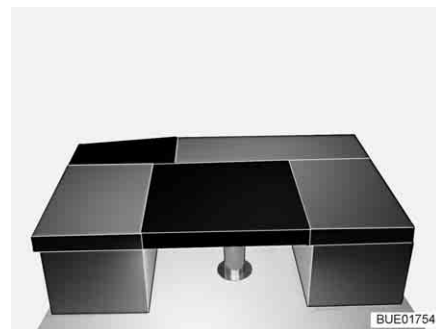

Fig. 141 After conversion
- Place the rectangular additional cushion on the table (between the seat cushions of the benches, see Fig. 141).